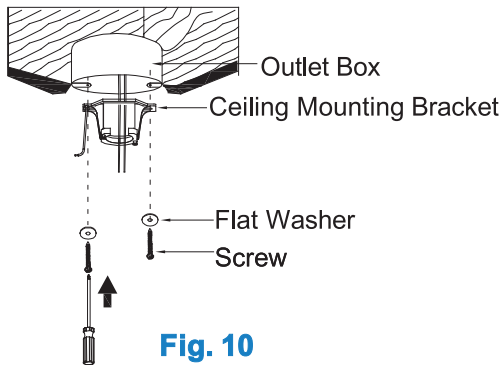

Fig. 10
**Step 1.** Before attaching fan to outlet box (not included), ensure the outlet box is securely fastened to at least two points to a structural ceiling member (a loose box will cause the fan to wobble). Pass the 120 volt supply wires from the ceiling outlet box through the center of the ceiling mounting bracket. Install mounting bracket to outlet box in ceiling using the screws and washers included with the outlet box (Fig. 10)